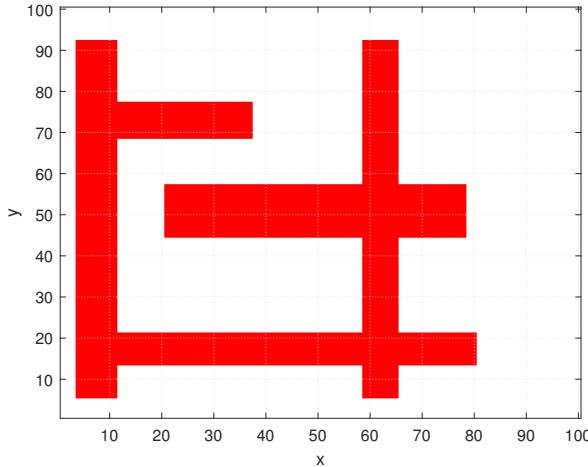

Figure 2: Map of the area.
- The map is depicted in Figure 2 and it will be plotted in "Task2/run.m" file.